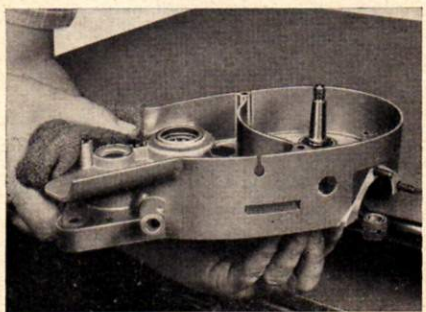

Fig. 33 Removing crankshaft from the heated left hand crankcase half-member
9. Heat left hand half member to between 80—90° C, take off the radial sealing ring and remove the crankshaft and ball bearing. If necessary support the crankcase with a layer of wood, as illustrated in fig. 33.